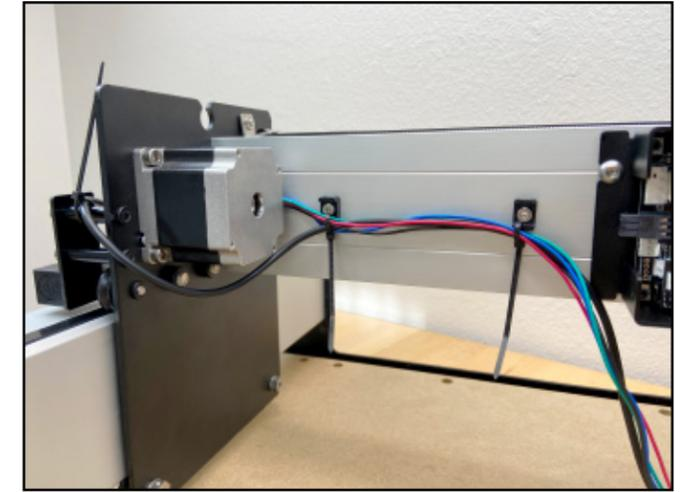

Figure 7-9
1. Use the 3mm hex key and one (1) M4×6mm socket head cap screw to attach each of the four (4) cable tie mounts to the four (4) M4 screw holes across the back of the X-rail. Attach the cable tie mounts vertically, two on either side of the enclosure. See **Figure 7-9** and **7-10**.
3. Use two (2) cable ties to attach the Y2-motor lead cable and the Y-Axis proximity switch cable to the two mounts closest to the Y2-motor. Use the lower attachment points. See **Figure 7-9**.